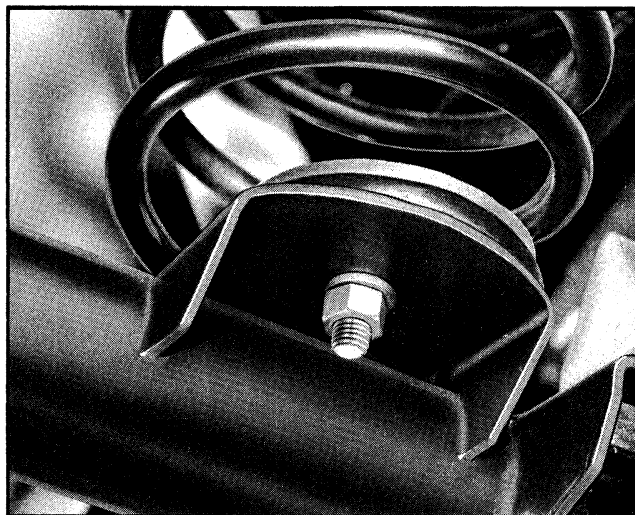

Fig. 3-27 Installing Spring Lower Clamp
2. Install lower clamp on spring and insert bolt, nut, lock washer and flat washer and tighten nut 30-40 lb. ft. torque (Fig. 3-27).